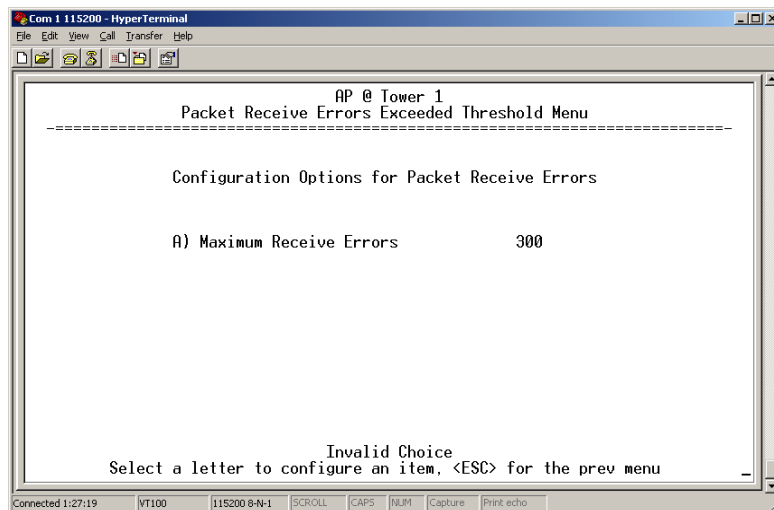

Figure 3-78. Packet Receive Errors Exceeded Threshold Menu
- **Packet Receive Errors exceeded threshold**— This setting determines whether or not a switchover occurs when the number of Packet Receive errors exceeds the number set in Figure 3-78 on Page 108. [enabled, disabled; disabled]
- Packet Receive Errors Exceeded Threshold**—This selection opens a submenu (Figure 3-78 on Page 108) where you can view or change the maximum allowable number of receive errors.